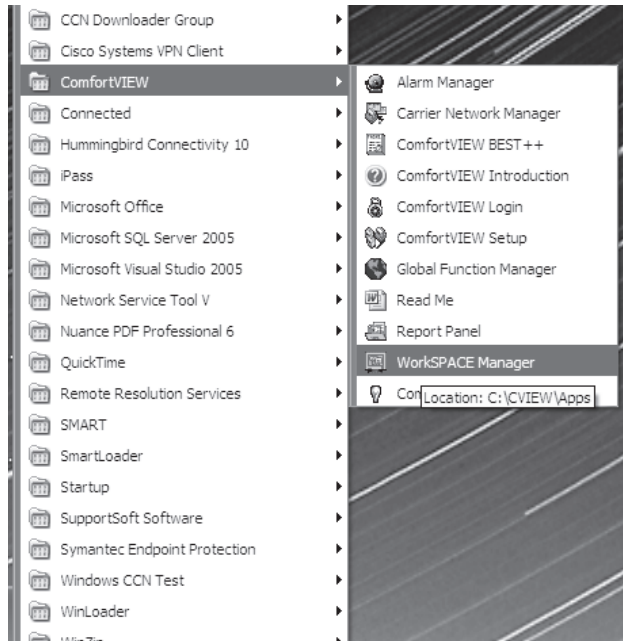

Fig. 14 — Start Workspace Manager
9. Once your chiller has been added, it is possible to clone all of your workspaces and viewspaces for your local chiller from one of the existing chiller databases. In order to do this, start Workspace Manager (Fig. 14) as follows.